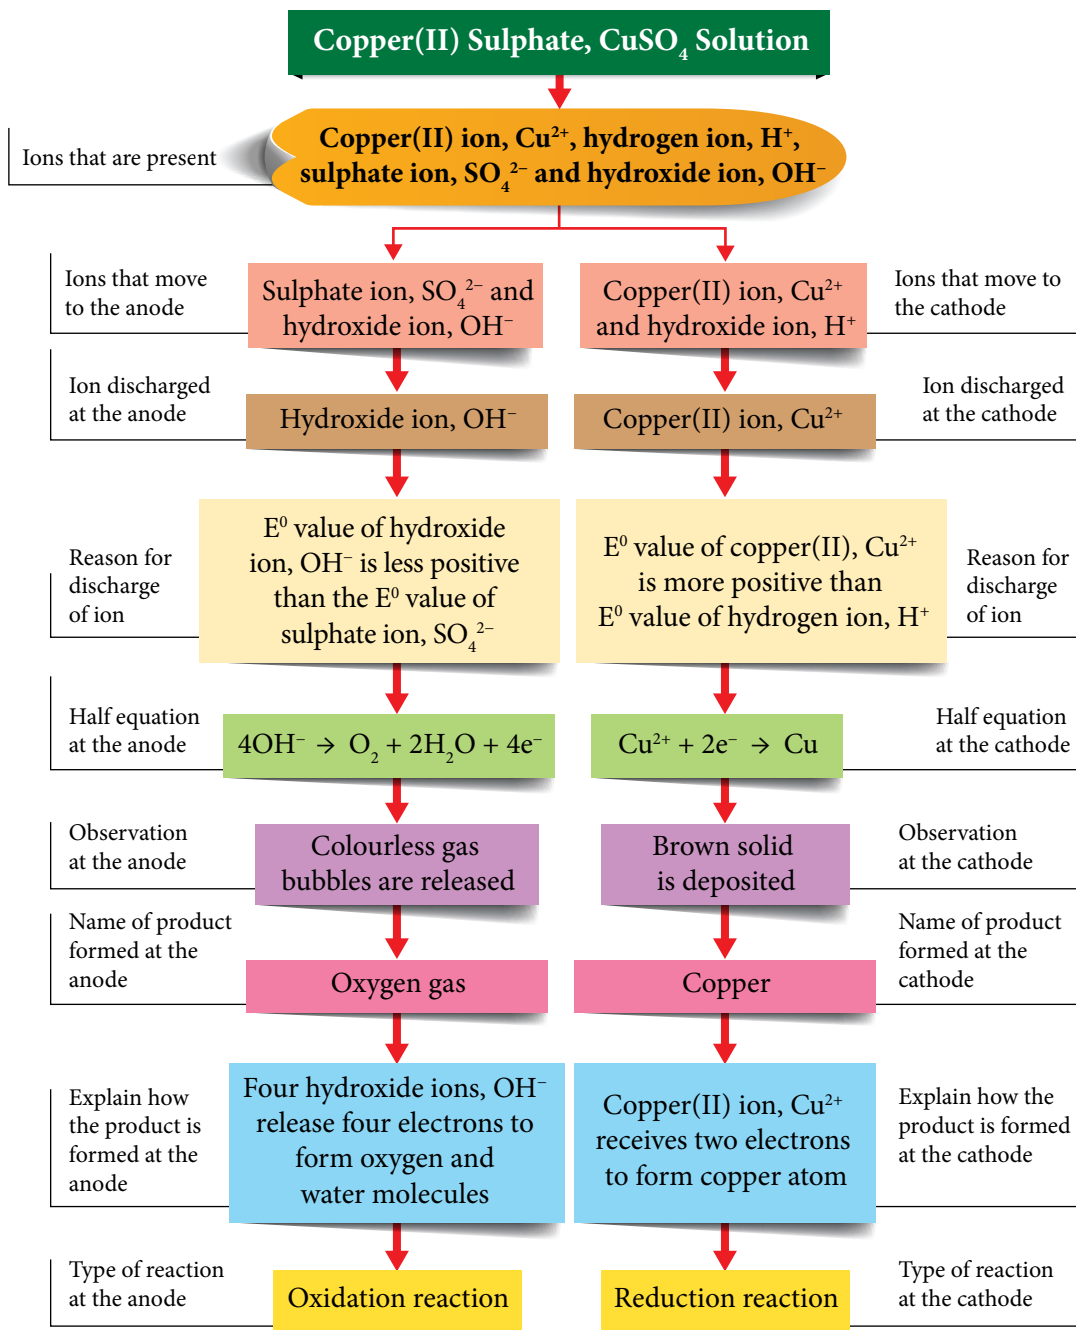

Figure 1.29 Flow chart of the electrolysis of copper(II) sulphate, CuSO_4 solution
- In the electrolysis of aqueous solution of copper(II) sulphate, CuSO_4 :
- copper(II) ions, Cu^{2+} are selected to be discharged and reduced at the cathode because the E^0 value of copper(II) ions, Cu^{2+} is more positive than the E^0 of hydrogen ion, H^+ .
- Explain the formation of products at the cathode and anode for the electrolysis of sulphuric acid, H_2SO_4 based on the results of the experiment in Laboratory Activity 1F using a flow chart as shown in Figure 1.29.